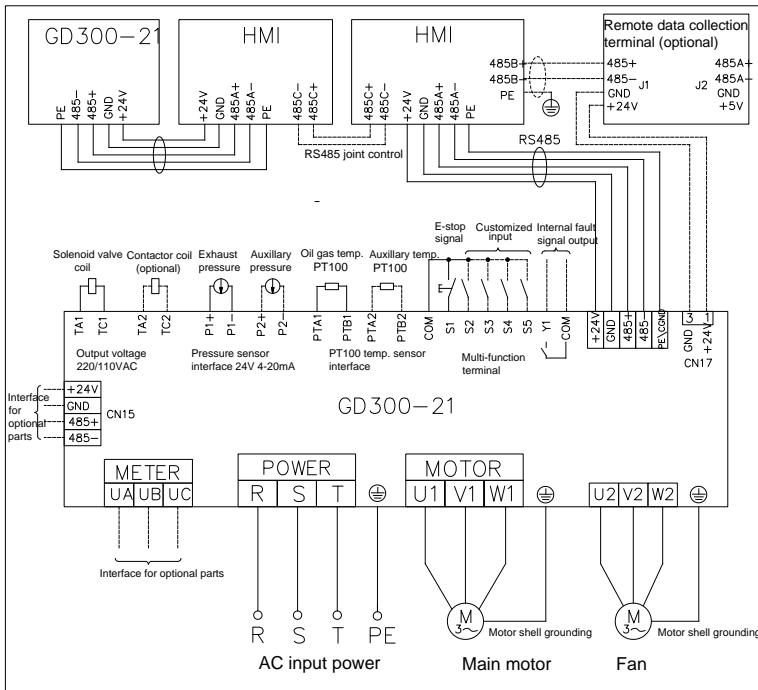
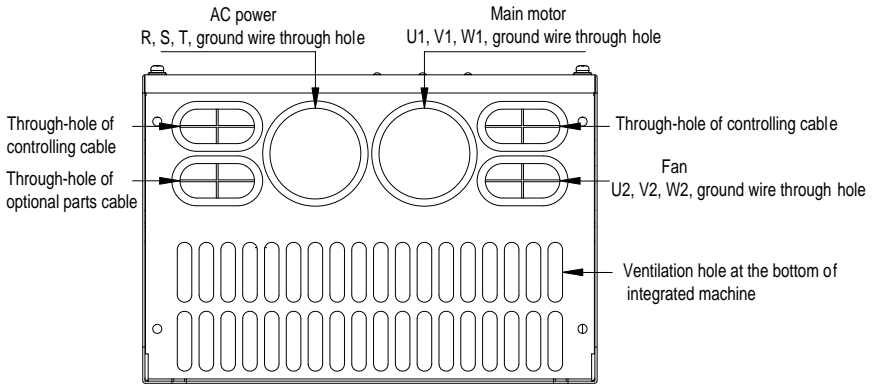

Fig 4.1 Wiring diagram of integrated machine system
Fig 4.2 Bottom view for 15–22kW
1. Conduct wiring and routing according to Fig 4.1 and Fig 4.2; check carefully if the wiring is correct and ensure the integrated machine and its shell GND is properly connected;